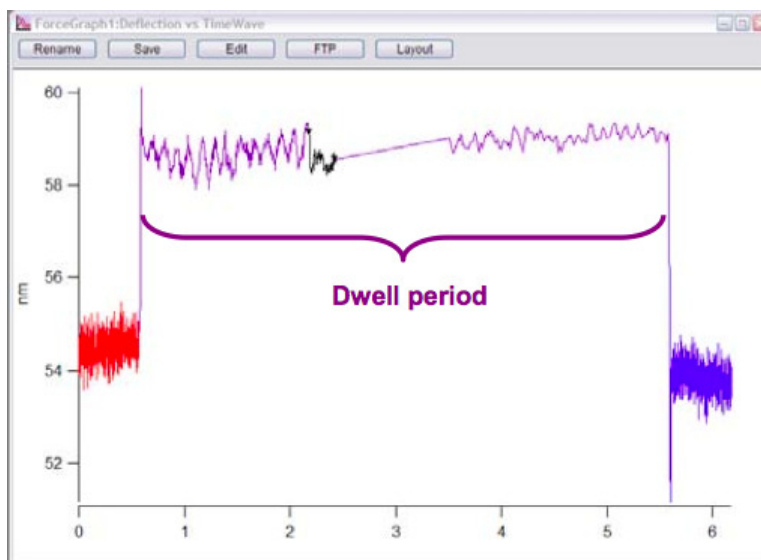

Figure 18.7.: Example of a temporal force distance curve (plotted as cantilever deflection vs. time, with a multi second Dwell towards surface).
⑤ **Dwell Time** This defines the length of Dwell. Maximum dwell time is 10 seconds. An example of a force distance curve (plotted as deflection vs. time) with a multi second dwell setting is seen in Figure 18.7 on page 238.
Always Force plot is updated as it is being collected; this will be evident by a black line that appears within the data stream in the force curve. See Figure 18.7 on page 238 for an example of this.